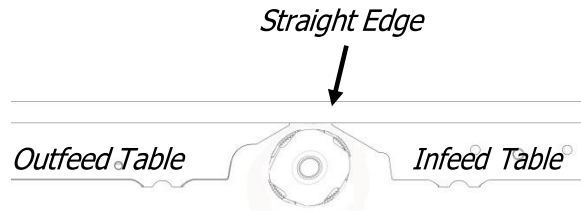

Figure 41: Straight Edge
STEP 2: Place straight edge across infeedand outfeed tables as in **FIG. 41**. If inserts interfere with straight edge, rotate the cutterhead.